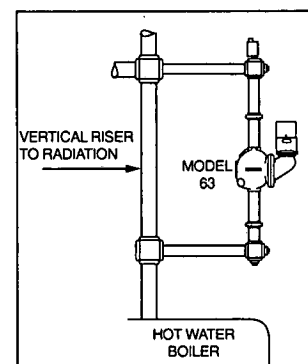

Figure 3
**Figure 3.** If there is no tapping available on the boiler, connect both the upper and lower equalizing pipe into the vertical riser going to the radiation or to the compression tank. **IMPORTANT:** The horizontal equalizing pipe should be below the horizontal run going to the radiation. If it is not, an air pocket will be created and a vent or bleed will have to be installed.